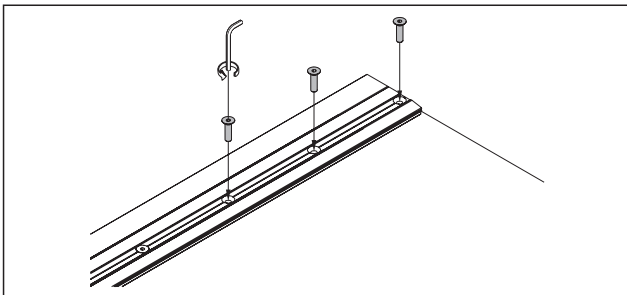

Fig. 49 Loosen the door rail
15. Successively place the disassembled panels on the setting blocks with 2 people. Loosen and remove the lower and upper door rails (Fig. 49).